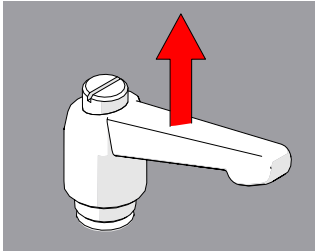

Fig. 62 - Pull ratchet handle
1. Pull the ratchet lever away from the base to which it is connected (Fig. 62).